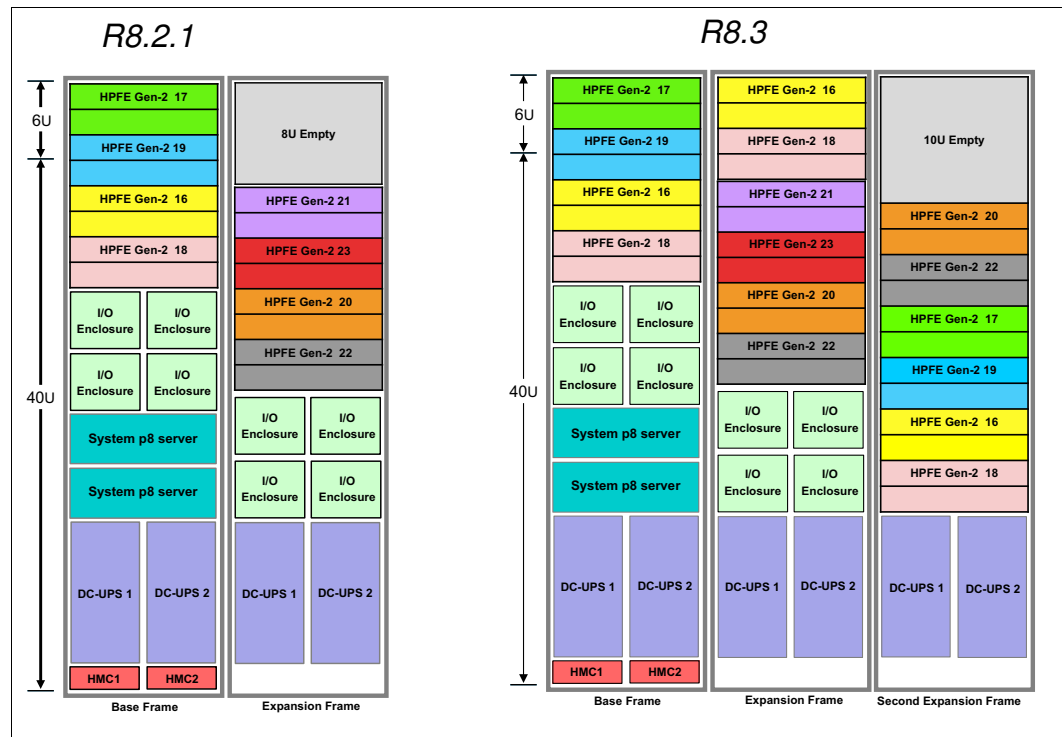

Figure 2-10 DS8888F MTM 533x Models 988 and 88E
- Release 8.3 enables the support for additional Flash capacity, up to eight pairs of HPFE Gen2 for DS8888F (Analytic Class) MTM 533x. This configuration includes the second expansion frame with six pairs of HPFE Gen2. The maximum configuration goes from 384 to 768 flash drives, as shown in Figure 2-10.